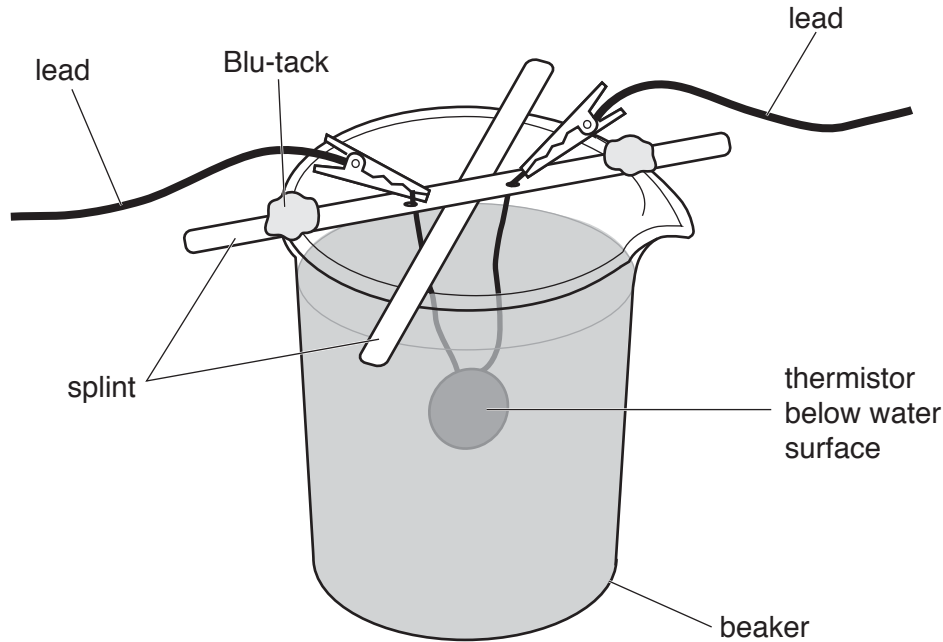

Fig. 4.2
3. A suitable disc thermistor has a resistance of about $500\ \Omega$ at 25°C . The RS component code of such a thermistor is RS 191-2229. The thermistor will be submerged in very hot water. A suitable way of suspending the thermistor is shown in Fig. 4.2.
Fig. 4.2 shows a simple framework of wooden splints across the top of the beaker. The wires of the thermistor pass through very small holes in one of the splints and the ends are attached to crocodile clips and connecting leads. Blu-tack is used to ensure that the framework does not slip.